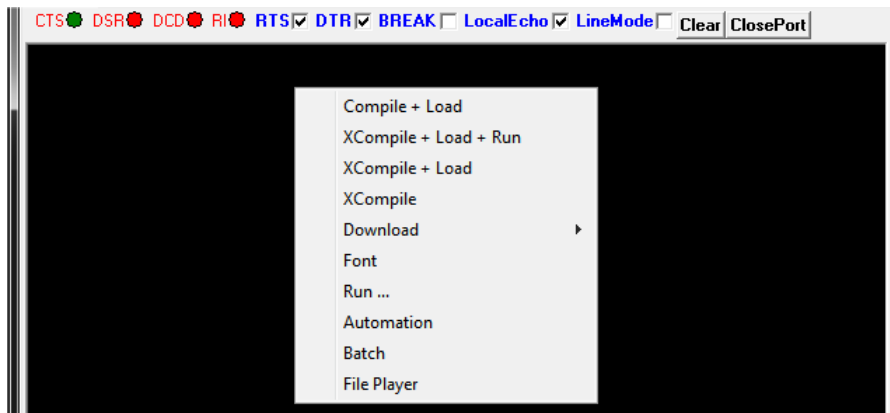

Figure 12: Right-click UWTerminal screen
1. To manage file downloads, right click on any part of the black UWTerminal screen to display the drop-down menu (Figure 12).